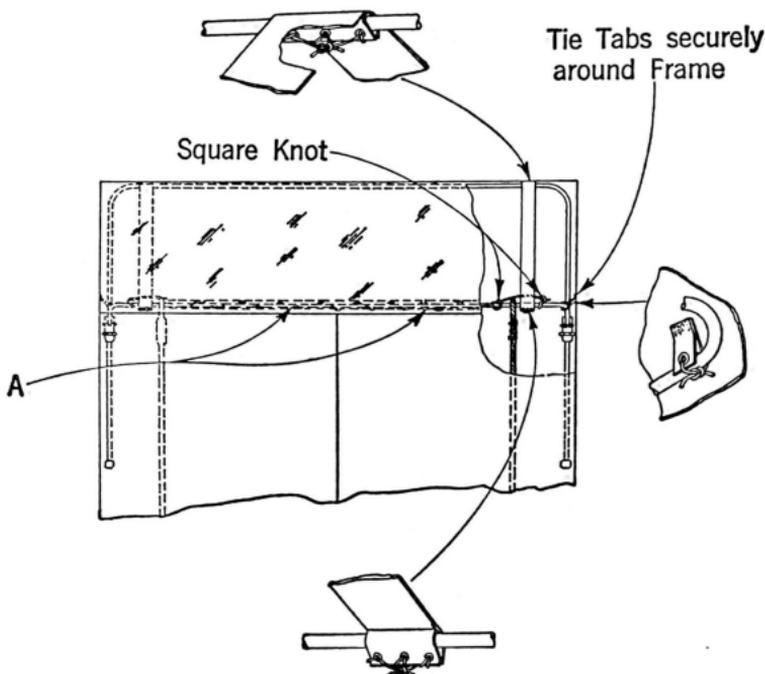

Fig. 6
6.02 The plastic coated canvas frame strap installation is illustrated in Fig. 6. These straps are a replacement item.
- (1) Carefully insert the frame (**with frame straps in place**) into the cover. Properly fit the cover on the frame.
- (2) Tie the tabs securely around the frame. A tab is illustrated in Fig. 6. The tabs require four 12-inch pieces of rope.
- (3) Lace the two seams (one on each side of the tent) to their respective bows using one piece of rope 5 feet long on each side. On each end of the seam, this piece of rope secures the frame strap and guy rope in place on the bows. This tie is illustrated in Fig. 6. "A" in Fig. 6 illustrates the location of the seam.